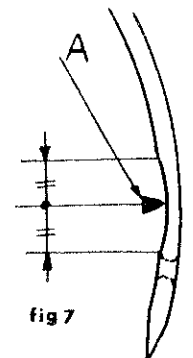

fig 7
WHEN THE LOOPER IS AT ITS EXTREME LEFT POSITION THE DISTANCE BETWEEN THE POINT OF THE LOOPER AND THE NEEDLE SHOULD BE 5mm. THIS ADJUSTMENT CAN BE ACCOMPLISHED BY LOOSENING NUT (O) AND MOVING LOOPER HOLDER (P). WHEN THIS ADJUSTMENT IS CORRECTLY MADE THE LOOPER POINT ON THE UPWARD STROKE SHOULD MEET THE NEEDLE SCARF (FIG. 7) WITHOUT CLEARANCE. WHEN THERE ARE SKIPPED STITCHES ONE OF THE MAIN CAUSES CAN BE THAT THE BACK OF THE LOOPER IS NOT TOUCHING THE NEEDLE AT THIS POINT